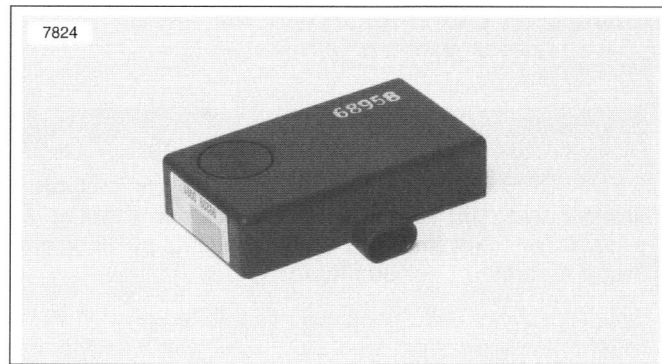

Figure S-5. Siren
- See Figure S-5. If the siren is armed and the internal siren battery is dead, shorted, disconnected, or has been charging for a period longer than 24 hours, the siren will respond with three “chirps” on arming instead of two.